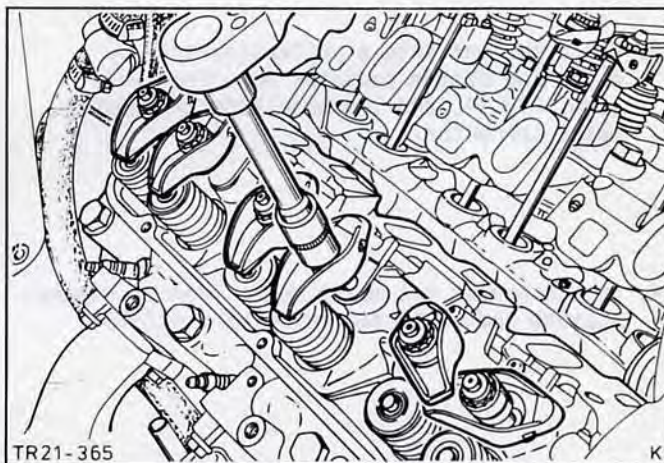

Fig.77. Release rocker arms and swing to one side.
13. Remove rocker covers (12 bolts). Release the rocker arms on the cylinder head to be removed, swing them to one side and lift out push rods, Fig.77.